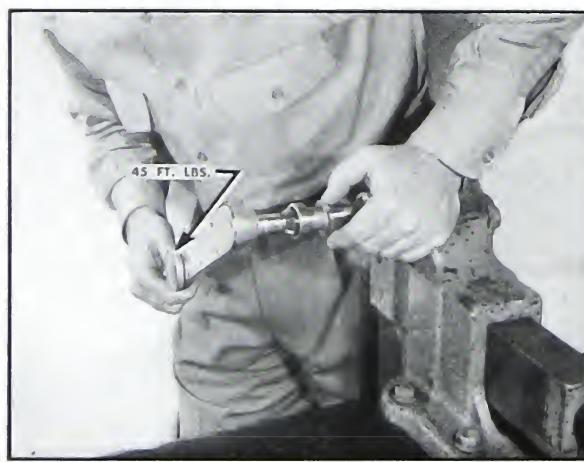

Fig. 5-308. Torque distributor drive gear nut
3. Assemble the disc drive gear to the tapered end of camshaft with washer and locknut. Torque nut to 45 ft. lbs. Fig. 5-308.
12. Assemble the disc drive gear to the camshaft with washer, and locknut. Tighten to 45 foot-pounds with a torque wrench. Fig. 5-308.